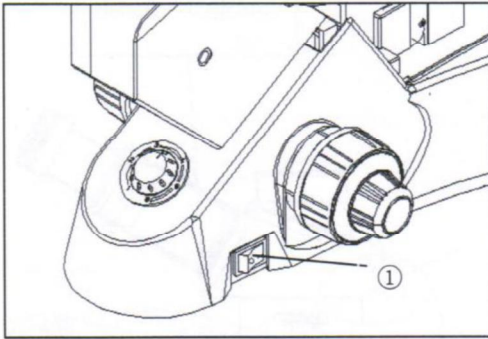

Fig.20
4-1-1 Turning On the Lamp (Fig.20)
Connect the power supply ,then set the main switch①(shown in fig.20) on the side of the base to “—”(on).